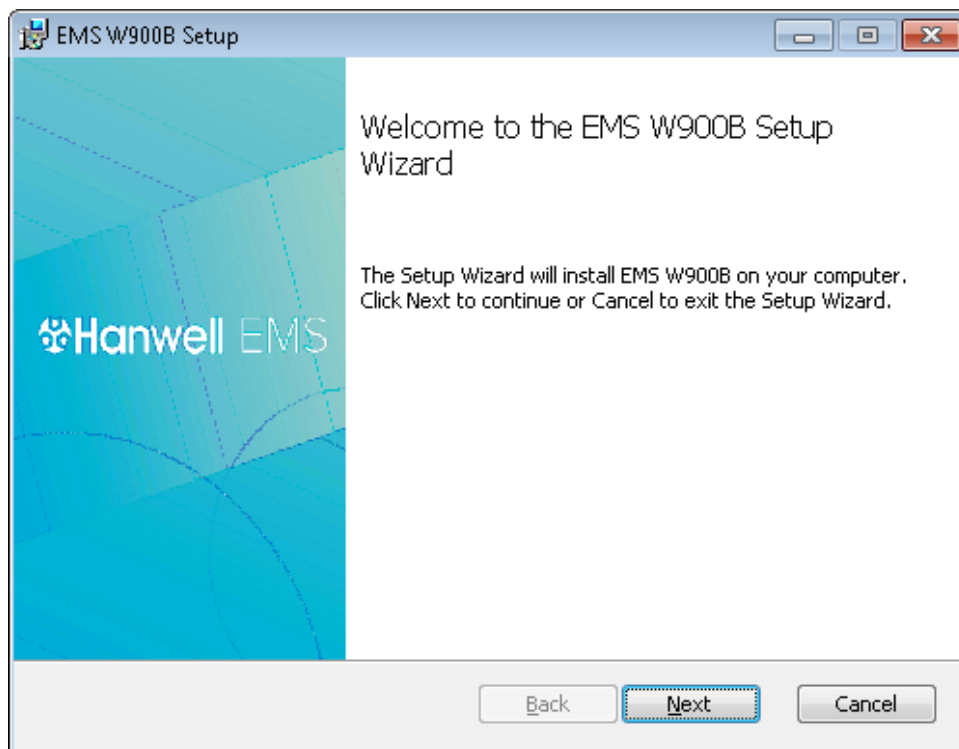

Figure 53
1. From the displayed **EMS Server Setup – Welcome to the EMS Server B Setup Wizard** window, click on **Next**. See Figure 53 below: